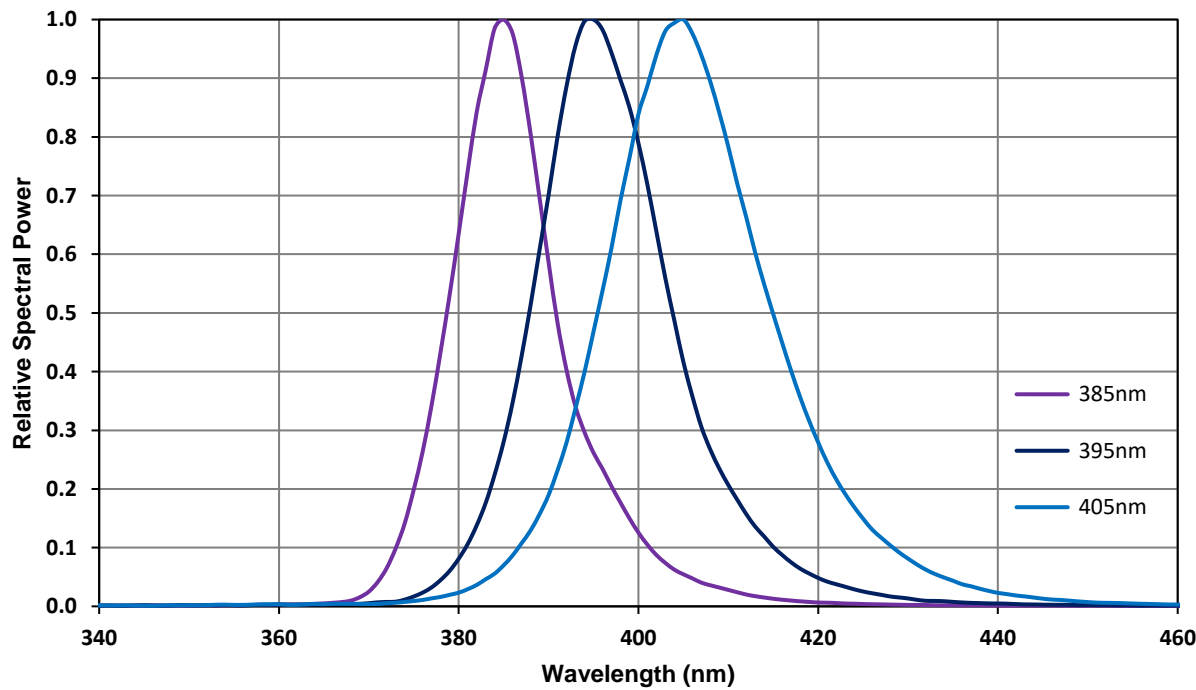

Figure 5: Typical relative spectral power vs. wavelength @ $T_C = 25^{\circ}\text{C}$.
- Solder conditions per JEDEC 020D. See *Reflow Soldering Profile* Figure 5.